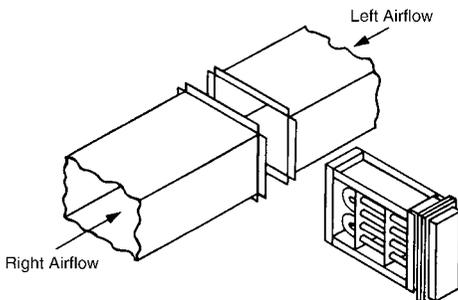

Figure 72C.
**Horizontal airflow direction** is defined in Figure 72C.